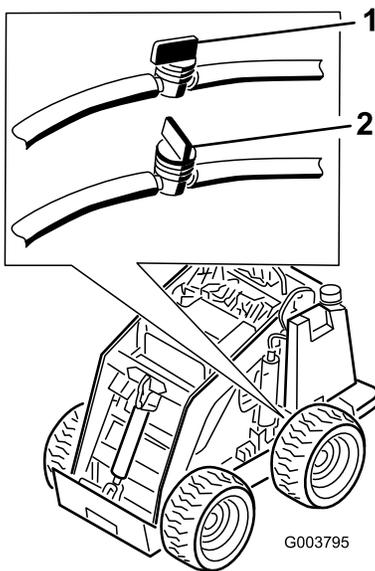

Figure 34
2. Shut off the fuel valve on the bottom of the fuel tank (Figure 34).
8. Open the fuel valve on the bottom of the fuel tank (Figure 34).
3. Shut off the fuel valve in the hose near the bottom of the fuel tank (Figure 34).
10. Open the fuel valve in the hose near the bottom of the fuel tank as illustrated in Figure 34.